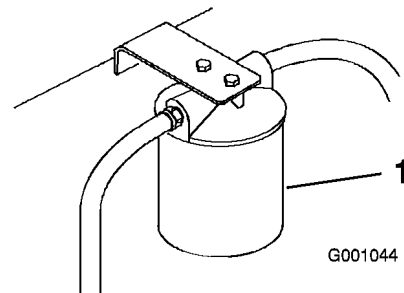

Figure 52
3. Place a drain pan under filter, remove the old filter and wipe the filter adapter gasket surface clean (Figure 52).